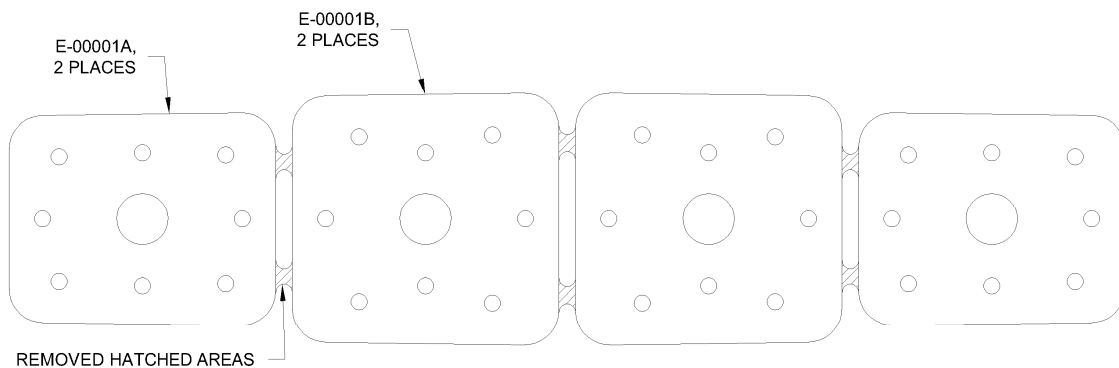

FIGURE 4: SEPARATING THE HINGE DOUBLER
Step 6: Separate the E-00001 Hinge Doubler into A and B parts. See Figure 4.